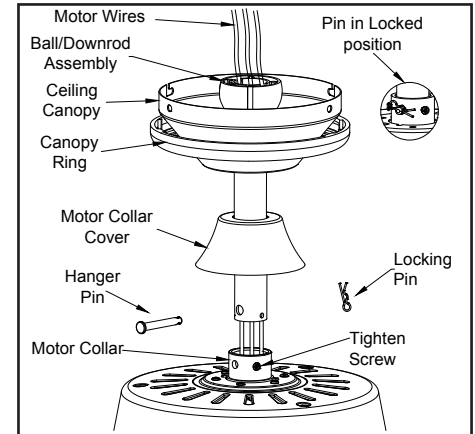

Figure 7
5. Route the wires exiting the top of the fan motor through the decorative motor collar cover then the canopy ring. Make sure the slot openings are on top. Route the wires through the canopy and then through the ball/downrod assembly. (Figure 7)
7. Align the holes at the bottom of the downrod with the holes in the collar on top of the motor housing. (Figure 7) Carefully insert the hanger pin through the holes in the collar and downrod. Be careful not to jam the hanger pin against the wiring inside the downrod. Insert the locking pin through the hole near the end of the bolt until it snaps into its locked position, as noted in the circle inset of Figure 7.